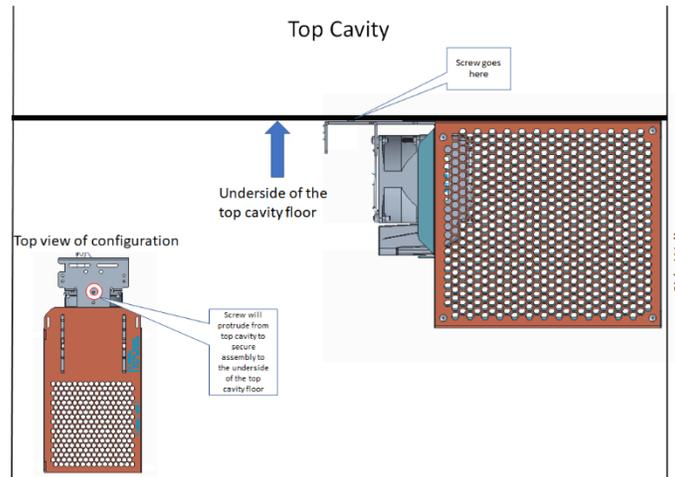

Figure 31
- 4) The heater (NCR heater assembly) with wire guard attached is to be oriented as shown in Figure 31 when mounting it inside the dispenser.